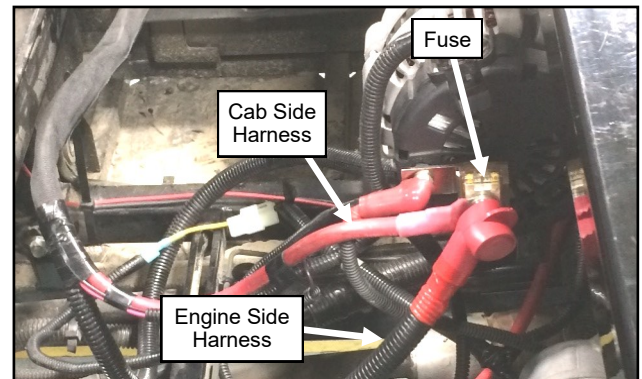

Fig. 4.4 (Install A/C Power Supply Harnesses)
- 4.4** Install 100 amp fuse, red wires from both the cab and engine side A/C Power Supply harnesses onto the Fuse Mounting Bar's Fuse Stud as shown in fig. 4.4.